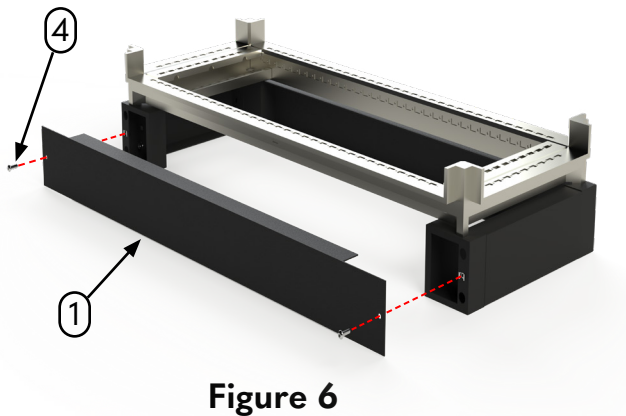

Figure 6
- Fasten through the front/rear plates into the centered cage nut in the corner element (Figure 6).
Insert the M6 torx screws (four total) through the front and rear plate, fastening with the center corner element's cage nut (Figure 6).